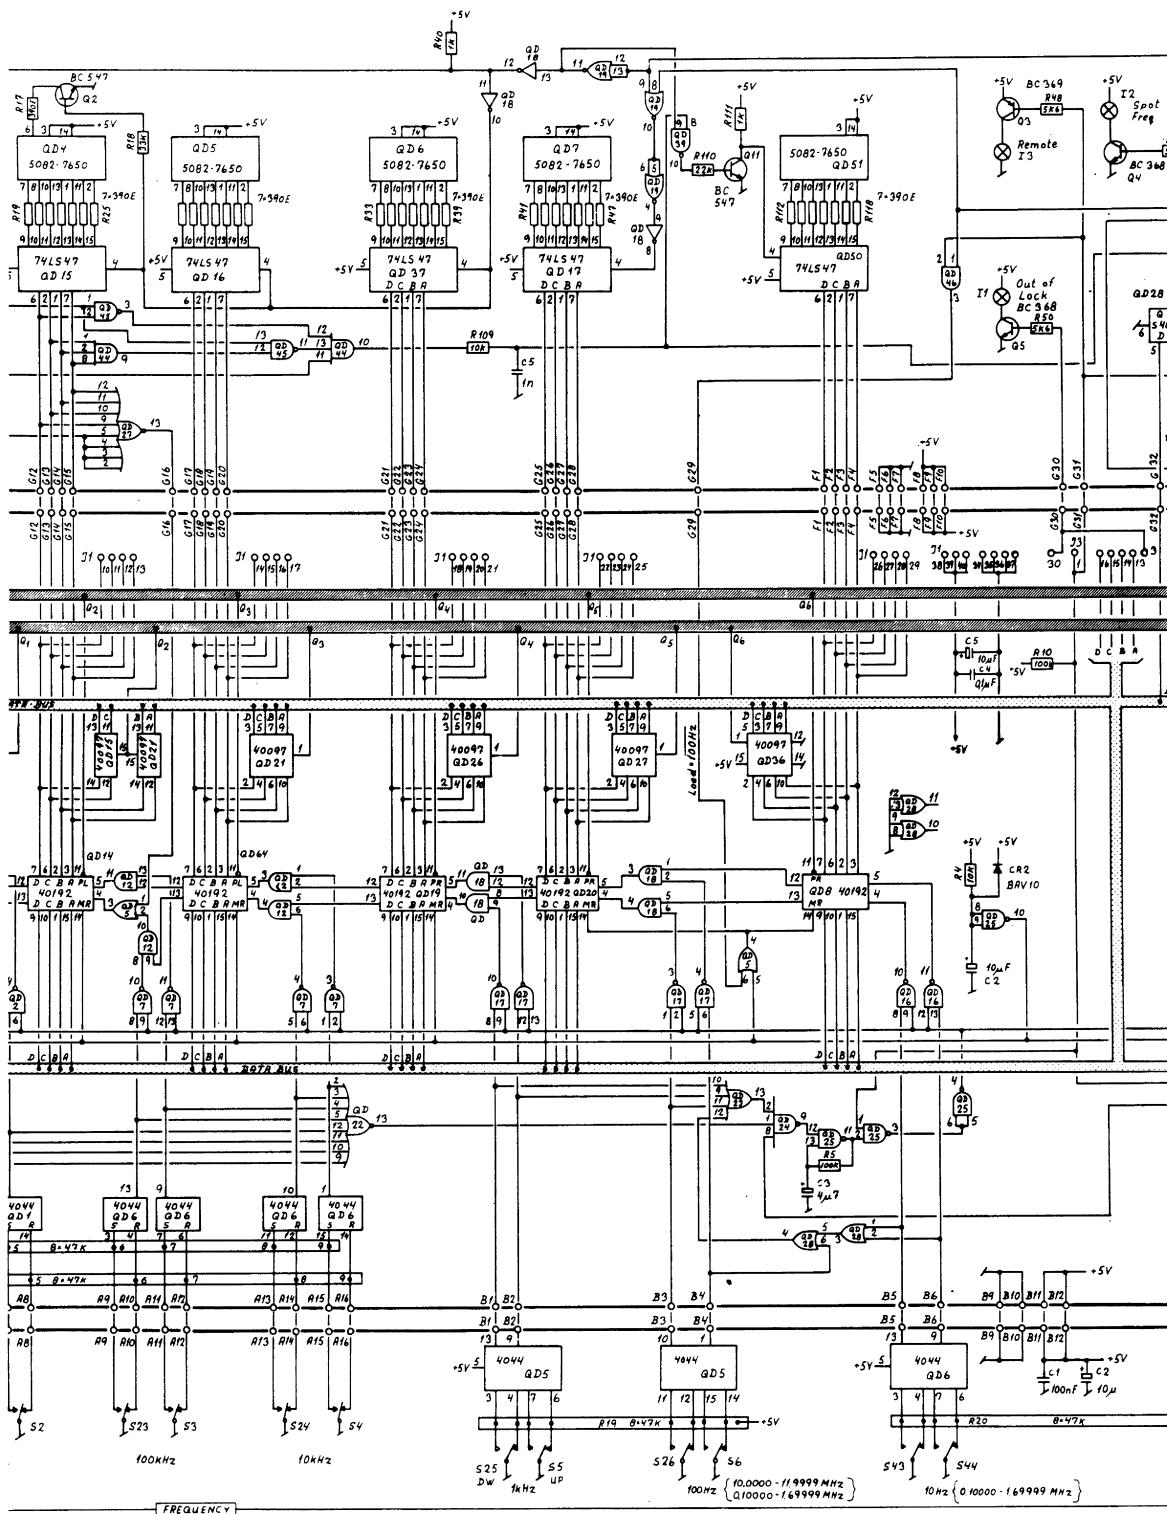

Fig. C8 - Part of Frequency Register and Display (Front Panel Unit)
Fig. C8 shows part of the frequency register and display. The keys for stepping up/down are shown in the bottom of the figure. Anti-bouncing flip-flops are inserted between the keys and the logical circuits. If the key 1 kHz Up is pressed, a positive level on the output of flip-flop QD5, pin 9 starts a clock generator (QD25 and associated circuit). Through gate QD17 the signal is then clocked into the count-up terminal on the presettable up/down BCD counter QD20 at a rate of approx. 3 Hz. When the counter overflows, a carry pulse clocks up the following digit by one. When stepping down, borrow pulses clock down the following digit in a similar way. The counter outputs  $Q_0$  to  $Q_3$  are fed to the seven segment decoder/driver QD37 and to the tri-state buffer array QD26. Furthermore, the outputs are fed to the Frequency Range Control and furthermore to the RF unit to control the RF frequency.